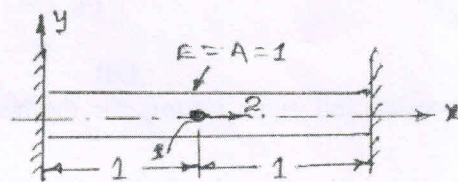

Fig.Q2
- 2 The potential energy for the linear one dimensional rod as shown in Fig.Q2 with body force neglected is $\pi = \frac{1}{2} \int_0^2 EA \left(\frac{du}{dx} \right)^2 dx - 2u$ where $u_1 = u(x=1)$. Solve it by Galerkin's approach. (16 Marks)